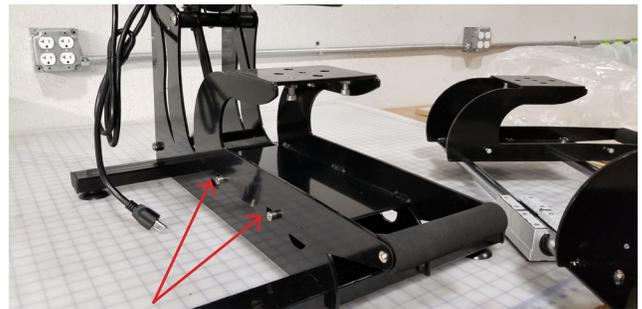

FIG 1: Loosen the screws on either side and remove platen.
1) Loosen and remove the screws on either side of the CS15AR base (Fig1). Then remove the lower table and place it to the side. Keep screws close because they will be used for the twin shuttle installation.